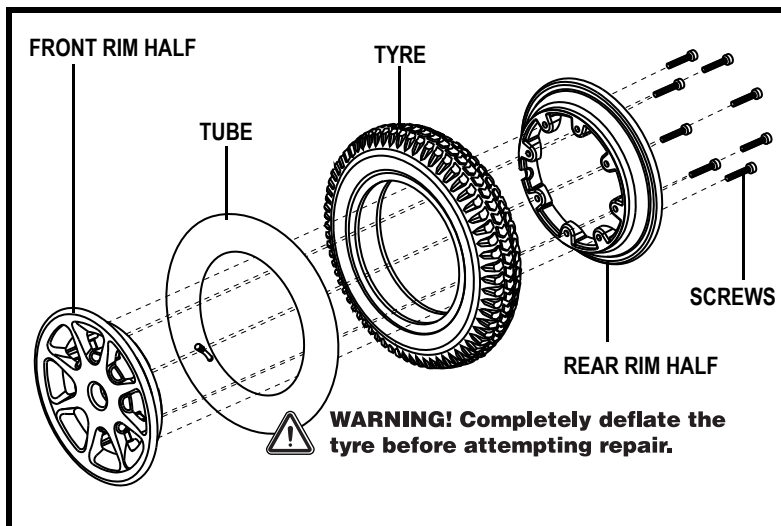

Figure 21. Drive Wheel Disassembly
6. Remove the screws that fasten the two wheel halves together. See figure 21.